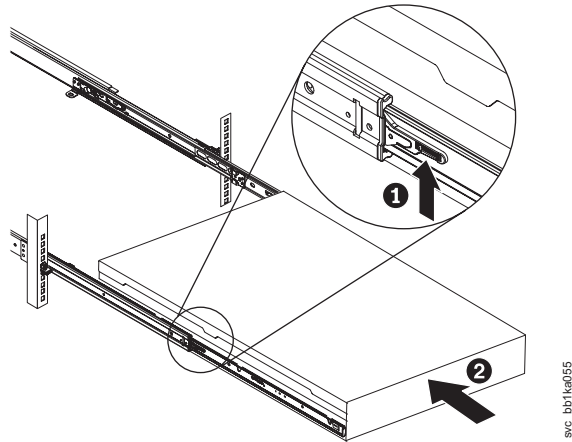

Figure 143. Raising the SAN Volume Controller 2145-CF8 locking levers of the slide rails of the rack
9. Lift the locking levers ( **1** in Figure 143 on page 136) on the slide rails and push the server **2** all the way into the rack until it clicks into place.